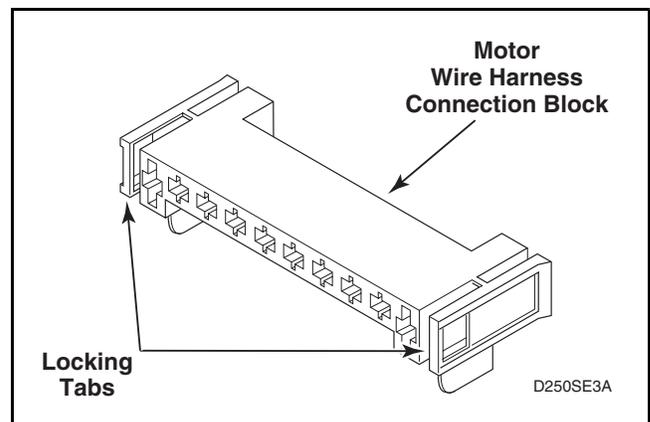

Figure 29
- h. Disengage motor wire harness terminal block from motor switch by pressing in on the movable locking tabs (located on each end of the terminal block) and pulling away from motor. Refer to *Figures 29 and 30*.
- (1) Disengage motor wire harness terminal block from the motor by pressing in on the movable locking tabs (located on each side of the terminal block) and pulling away from motor. Refer to *Figure 29*.